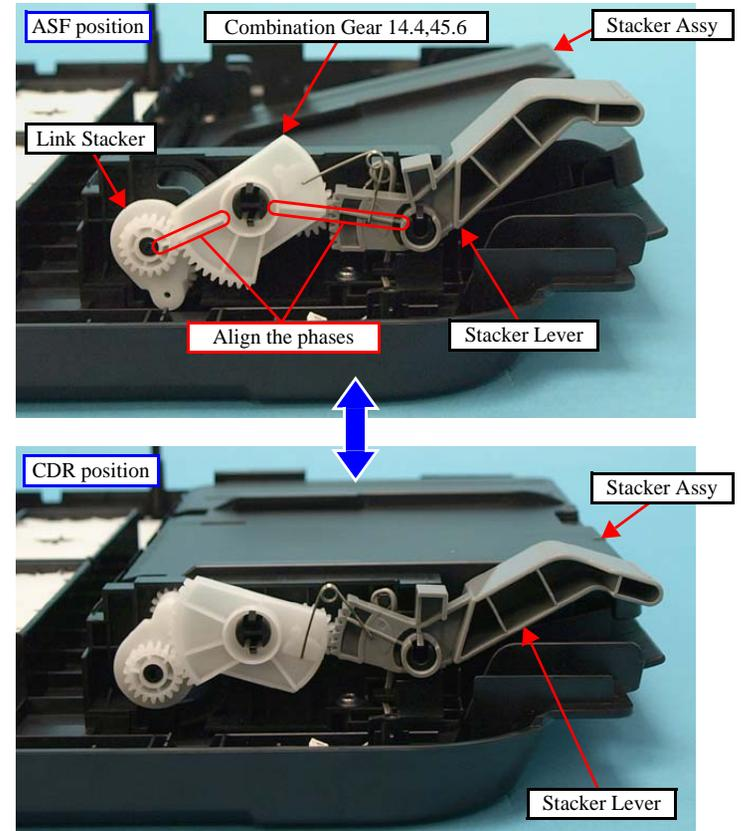

Figure 8-20. Phase Adjustment of the Stacker Assy
1. Press down the Stacker Lever to make the Stacker Assy to the CDR position. (See Figure 8-20(p.154).)